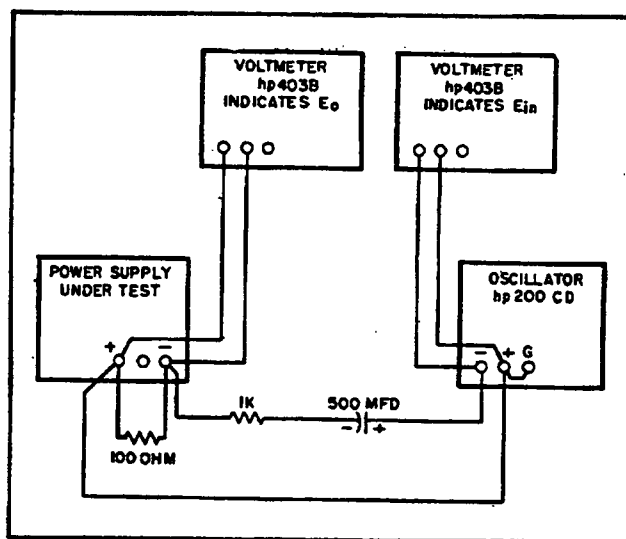

Figure 5-8. Output Impedance, Test Setup
- Connect test setup shown in Figure 5-8.